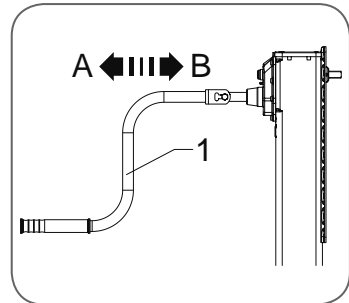

Fig. 7 - Gear change
The low gear –item B– ► *Fig. 7* serves to lift and lower the trailer vehicle.
Push or pull the crank handle –item 1– ► *Fig. 7* into the desired gear. The gear engages noticeably into place.